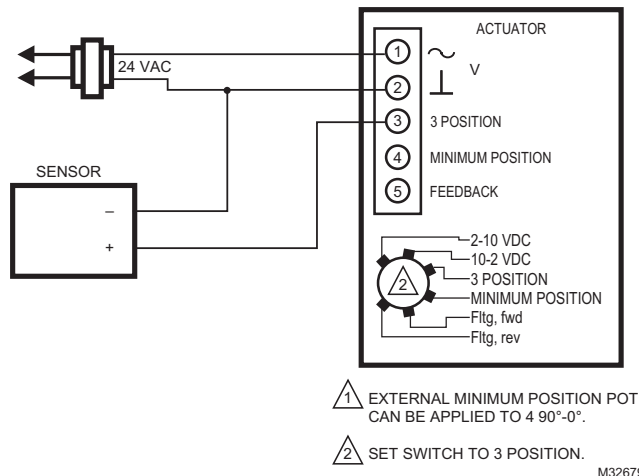

Fig. 20. Wiring for 3 position Economizer controllers, MS74 series.
2. Connect Sylk-enabled (S-BUS) controller to terminals 3 and 4. (See Fig. 20)
3. Connect power to terminals 1 and 2. (See Fig. 20 and Table 2.)
5. Apply S-BUS command via the connected Sylk-enabled controller for actuator full open or full closed position. (See Fig. 20 and Table 2.) The MS3105 series has the option for local test by setting "Mode Select" dial to 6. Remember to reset the "Mode Select" dial to the appropriate address after the test has been completed.